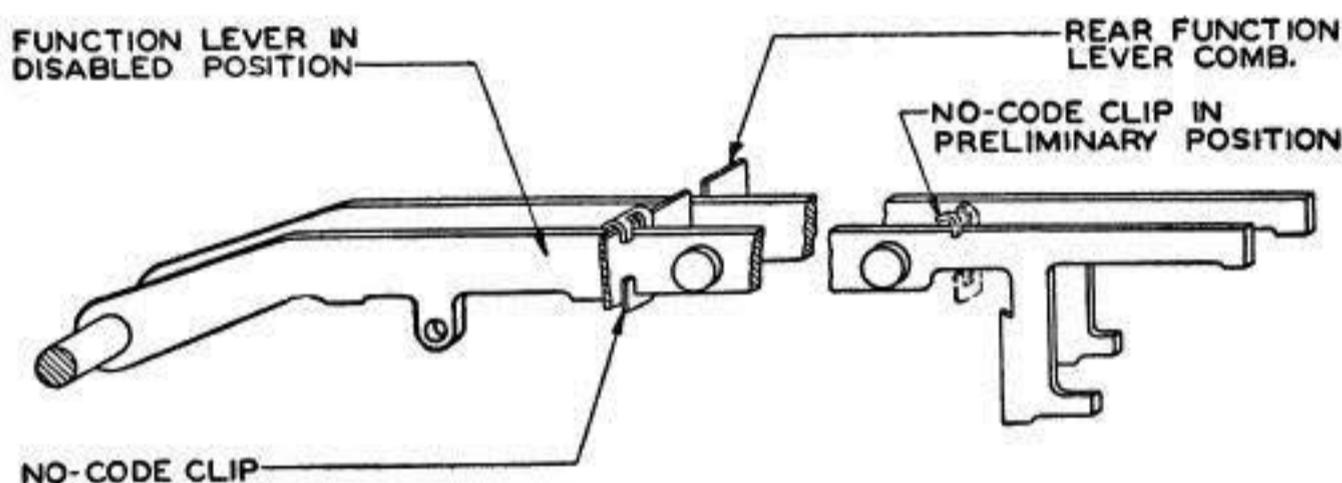

Fig 64
- (b) Slide the no-code clip over the narrow part of the function lever just behind the pullbar extension. The open side of the clip should be toward the stud side of the function lever and the curved end should be up and extend toward the pivoted end of the lever. **Fig 64**
(c) Slide the clip against the rear function-lever comb and raise the lever far enough to hook the curved end of the clip over the top edge of the comb. **Fig 64**